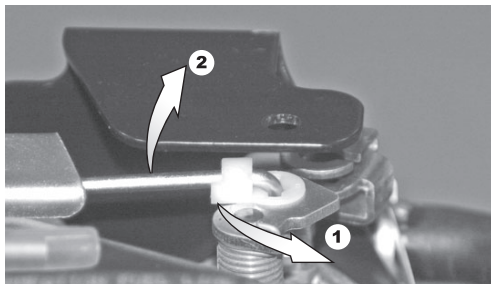

Fig. 5 Throttle Rod Removal
To remove the throttle rod from the throttle plate (Ref. Fig. 5), twist the plastic connector (1) counterclockwise away from the throttle rod, line up the slot with the tabs on the rod and remove the rod from the throttle lever by lifting up (2).